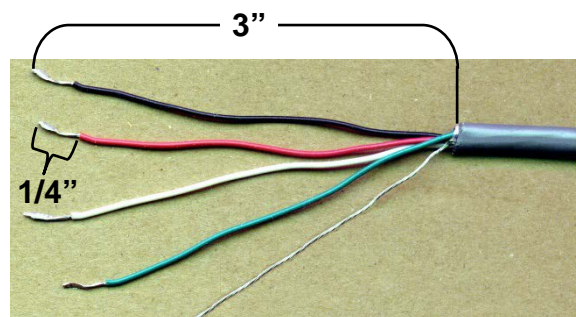

Figure No. 3
4. Referring to Figure No. 3, remove 3 inches of the outer insulation jacket.
3. Remove 3" of the outer insulation jacket then remove 1/4" of insulation from each of the wires (refer to Figure No. 3).